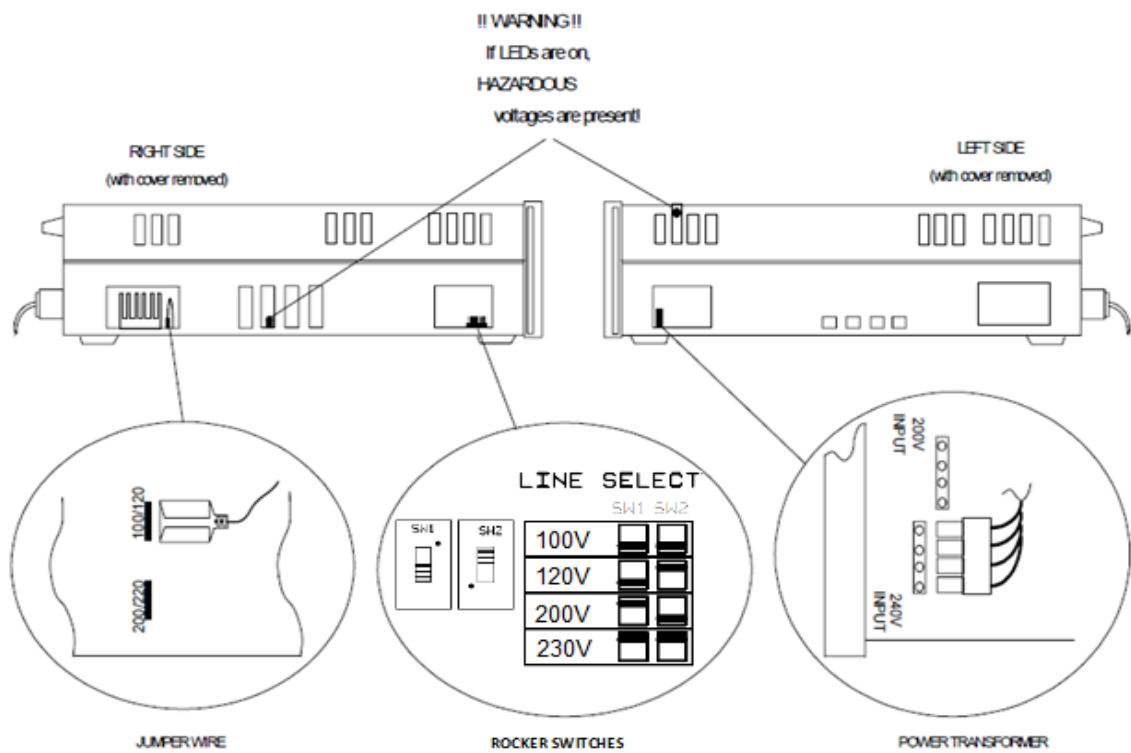

Figure G-1 Line voltage conversion components
- 1 Locate the line voltage jumper wire in the cutout at the side of the unit by the line cord (see Figure G-1).